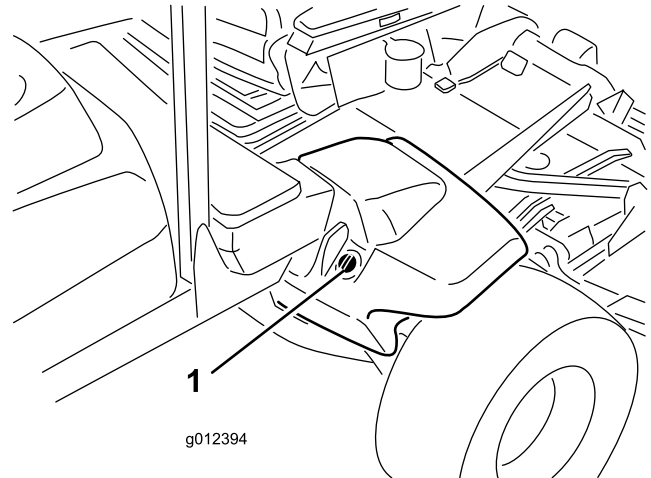

Figure 20
2. Clean the area around the filler neck and cap of the hydraulic tank (Figure 20). Remove the cap from the filler neck.